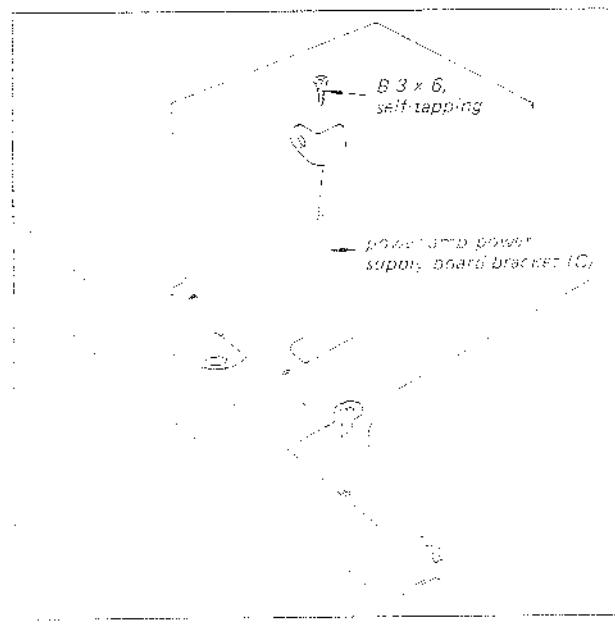

Fig. 2-6. Volume Control replacement.
1. Remove the power amp power supply board bracket (C) by taking out the screw as shown in Fig. 2-6.